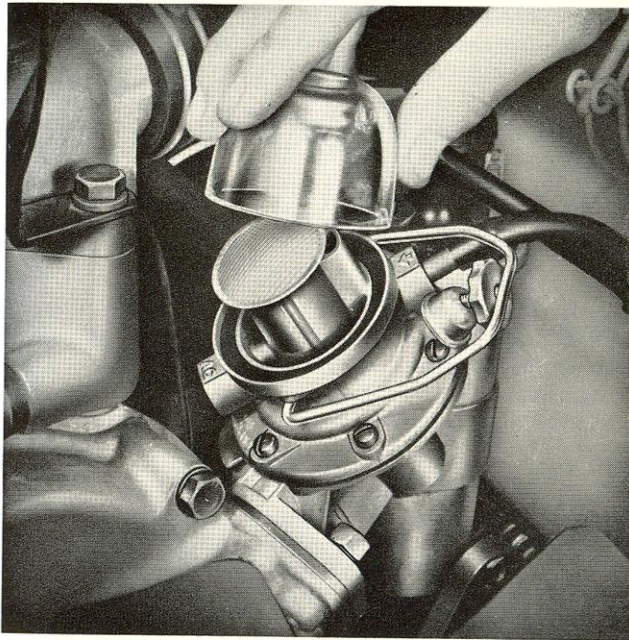

Figure 29 Fuel pump sediment bowl and filter
**Fuel pump sediment bowl and filter Figure 29**